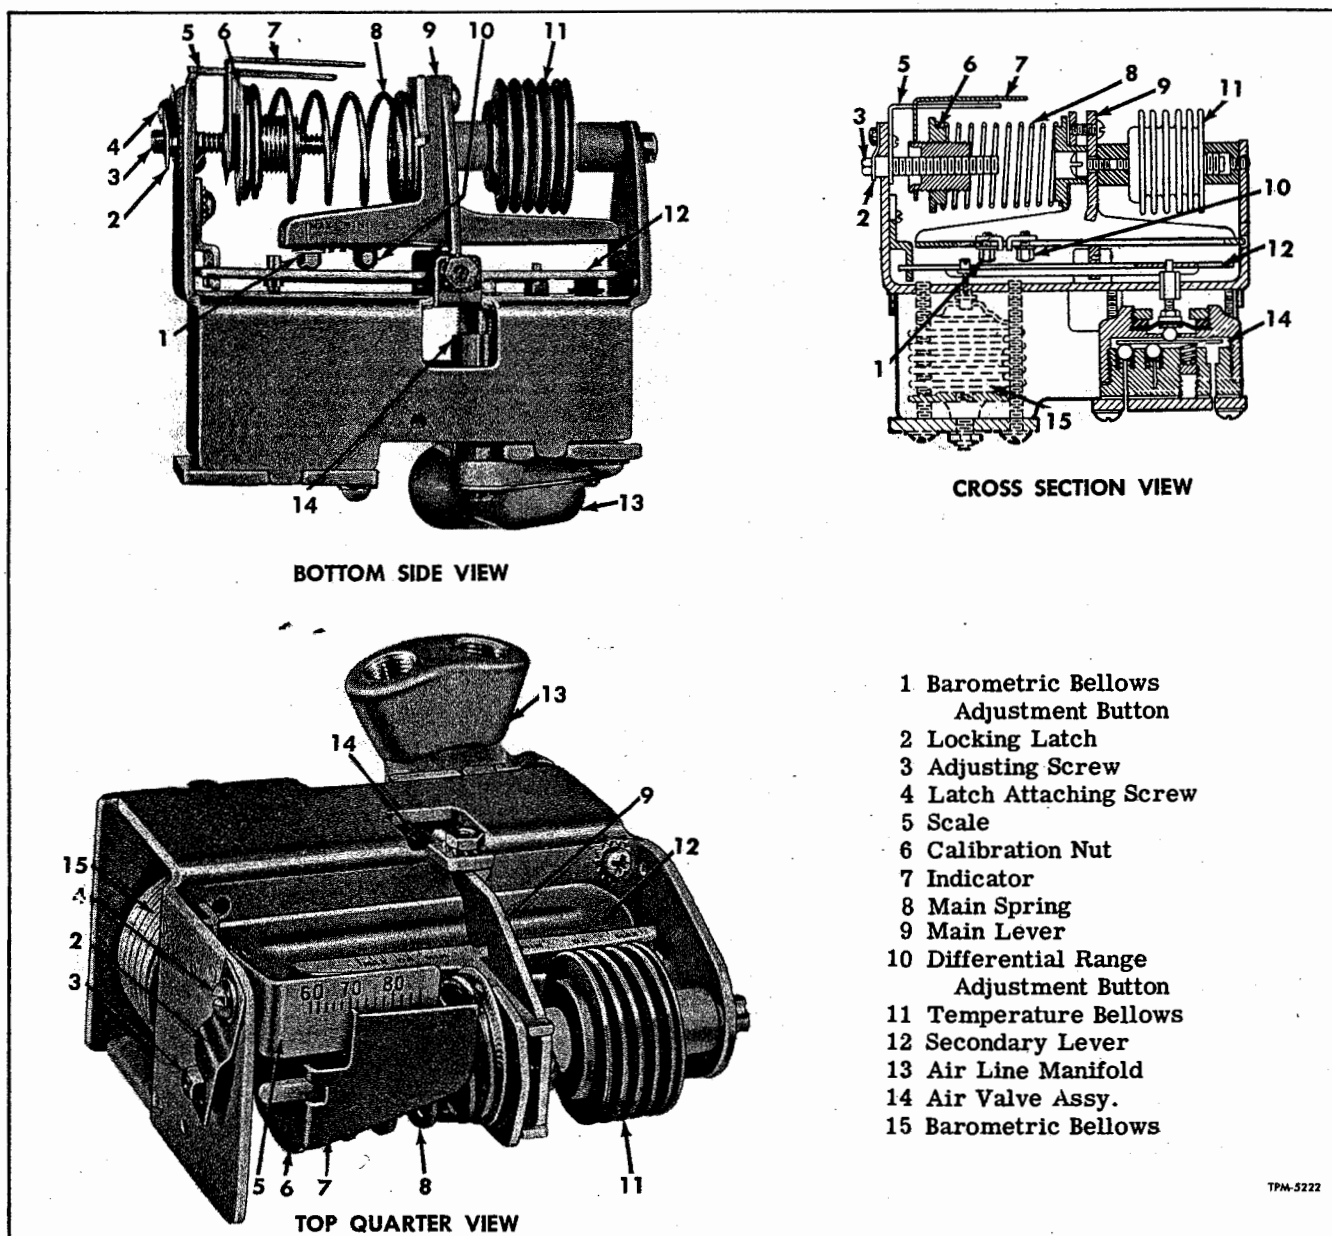
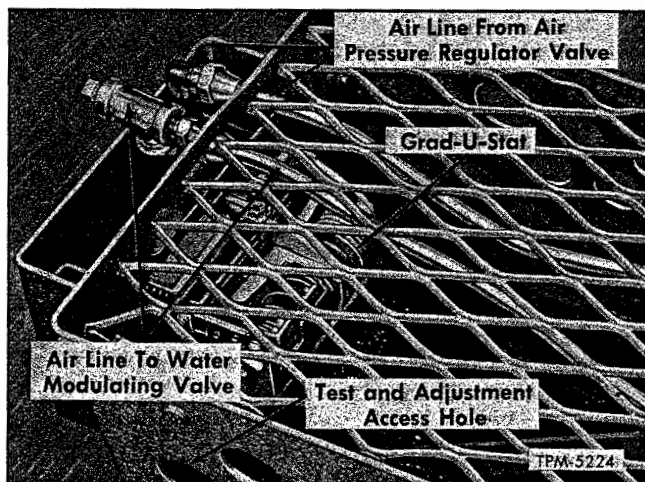

Figure 20—Heating System Grad-U-Stat
Figure 21—Grad-U-Stat Installed
Grad-U-Stat (fig. 20), which is a thermostatically operated control valve, is installed in recirculated air floor inlet located under second seat from front on right side of aisle (fig. 21). Two air lines connect to unit. Main air line, connected to port next to aisle is the (M) main feed line from air pressure regulating valve, which limits the air
The differential range adjustment button (10, fig. 20) on the main lever is set at the factory to provide a 6 F. differential between fully closed and fully opened position. This setting has been found satisfactory for most operations and it is recommended that setting not be changed.
Grad-U-Stat is also altitude compensated, providing uniform temperature control when coach is operating at various elevations. An auxiliary bellows (15, fig. 20), unaffected by temperature changes, opposes the effect of altitude changes on the temperature-sensing bellows by retarding action of the secondary lever.
Key numbers in text refer to figure 20.
3. Disconnect Grad-U-Stat to water valve air line elbow (fig. 21); then install air pressure test gauge in this circuit.
6. Through hole in side of air inlet riser, loosen locking latch screw (4), disengage latch (2) from adjusting screw (3), then turn the adjusting screw to set the indicator at the temperature shown on the thermometer.
7. Observe pressure reading on air pressure test gauge. If reading is 4-1/2 pounds, no adjustment is required. If pressure is above 4-1/2 pounds, turn the calibration nut (6) and main spring (8) to shorten the spring until the correct reading (4-1/2 pounds) is obtained. If pressure is below 4-1/2 pounds, turn calibration nut and main spring to lengthen the spring.
8. After correct adjustment is obtained, turn adjusting screw (3) to set the indicator at desired operating temperature (75°F. is factory setting), place locking latch (2) over adjusting screw, and tighten latch screw (4).
a. Using a small open-end wrench, loosen the differential range button (10, fig. 20). Move the button to the desired position on its scale, and retighten range button. **NOTE:** To perform this operation it is necessary to return the screen from air inlet.
b. Make sure differential range button is between the MAX. and MIN. markings on side of main lever (9, fig. 20). Maximum range is 10 degrees, minimum range is 3 degrees.
REMOVAL OF GRAD-U-STAT (Fig. 21)
INSTALLATION OF GRAD-U-STAT (Fig. 21)
2. Connect air pressure regulator air line to elbow closest to aisle (fig. 21). Connect air pressure test gauge and other line to opposite fitting.